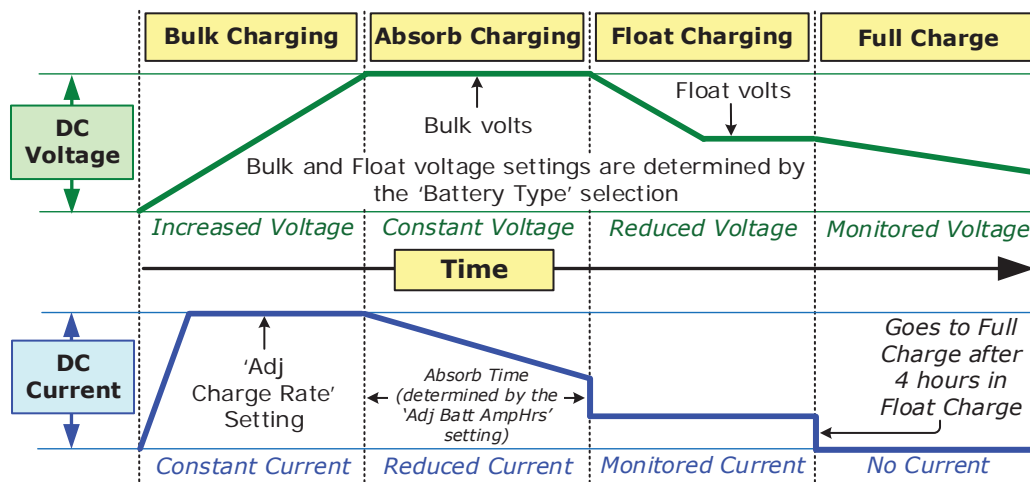

Figure 4-3, Automatic 4-Stage Charging Graph
The multi-stage charger can use up to five different charging stages to help monitor and keep the batteries healthy. The five stages include an automatic 4-stage charging process (Bulk, Absorb, Float, and Full Charge), and a manual Equalization (EQ) charge stage. The automatic 4-stage charge process provides complete recharging and monitoring of the batteries without damage due to overcharging (see Figure 4-3). The Equalization stage is used to stir up stratified electrolyte and reverse any battery plate sulfation that might have occurred.